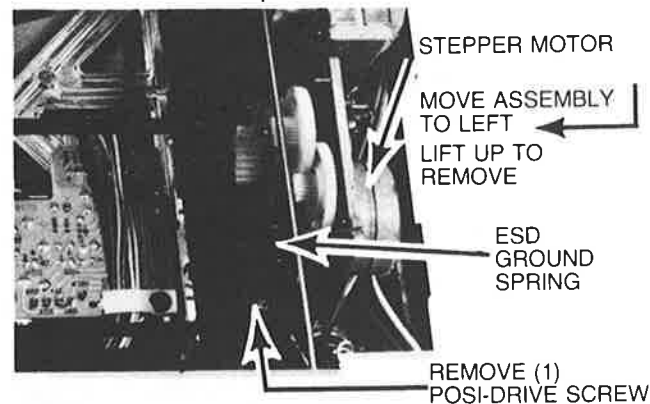

Fig. 13—Arm Drive Assembly
1. With cabinet top and front panel removed—remove one (1) posi-drive (+ head) screw Fig. 13.
3. Remove stepper motor from arm drive assembly by removing two (2) small posi-drive (+ head) screws and lay stepper motor to the side out of the way.
2. Cut four (4) wire ties and pull stepper motor cable and plug assembly up through baseplate.
3. Remove two (2) small posi-drive (+ head) screws used to mount stepper motor and remove stepper motor (Fig. 13).